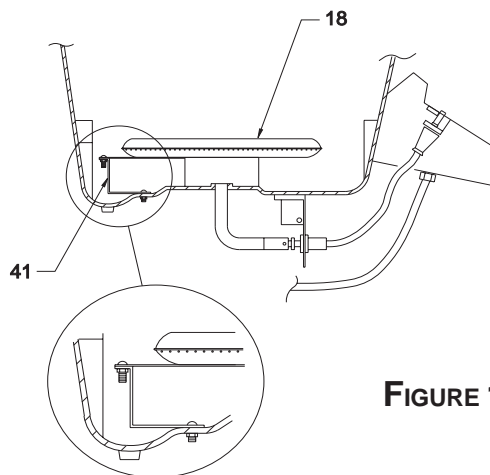

FIGURE 12
Secure the burner by aligning the burner stabilizing bracket and the burner stabilizing arm and fastening with a screw (42) and a keps nut (28). FIGURE 12.